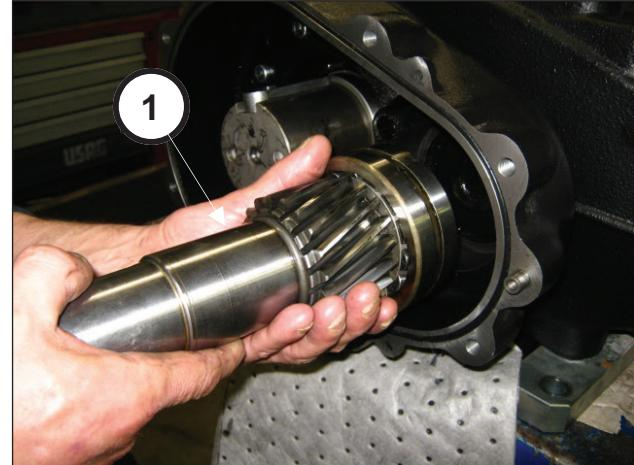
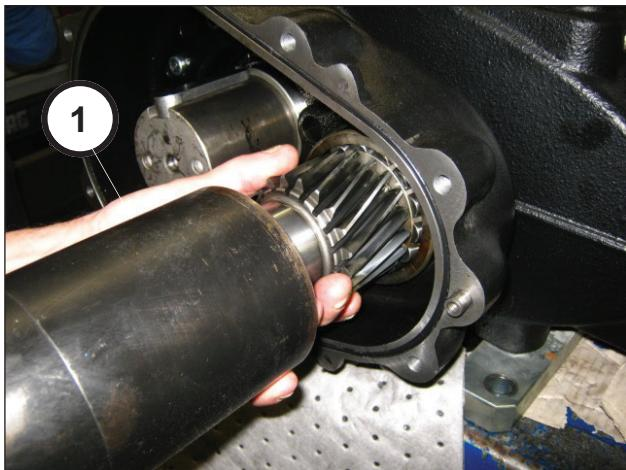

Fig. 76
Fig. 77
Assemble the pinion unit in the reduction gear box (pos. ①, Fig. 76) and insert it in the housing using the tools code 27884900 and code 27885000 (pos. ①, Fig. 77).